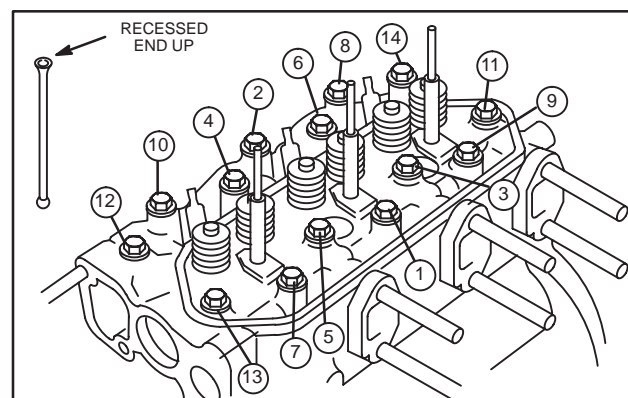

Fig. 30 – Install Cylinder Head Assembly
2. Install cylinder head assembly, Fig. 30. Lubricate threads of cylinder head bolts with engine oil. Torque head bolts in 13.0 Nm (10 ft. lbs.) increments in sequence shown.
3. Lubricate push rods with engine oil then install with recessed end up, Fig. 30.